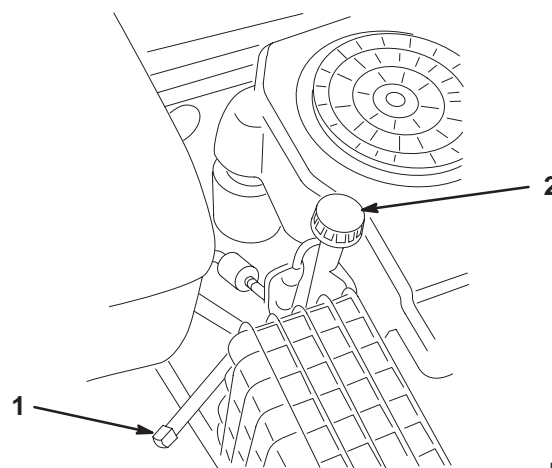

Figure 25
3. Place a pan below the oil drain. Remove the oil drain cap (Fig. 25).
5. Clean around the oil dipstick and unscrew the cap (Fig. 25).